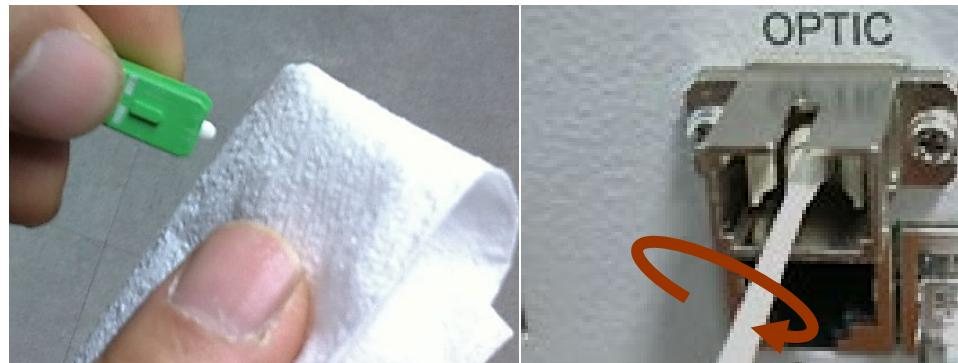

Figure 3-8 Optic Connector Cleaning (left) and Optic Port Cleaning (right)
- We recommend cleaning the optic connectors using a dry optical cleaning swab or tissue in a dry environment as needed. We recommend cleaning the optic connectors only if the expected optic loss is higher than the loss reported in the Web-GUI by 1.5dBo. (Figure 3-8)